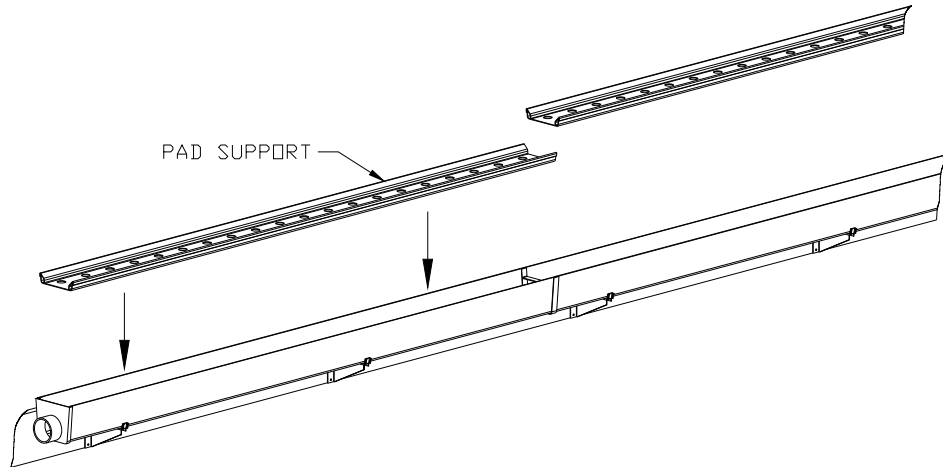

Figure 16
12. Locate the pad supports install them on the gutter assembly as shown in Figure 16.
- Attach the hangers and the top cover support sections to the stringers with $\frac{1}{4}$ " x $1\frac{1}{2}$ " hex head screws as shown in Figure 16.